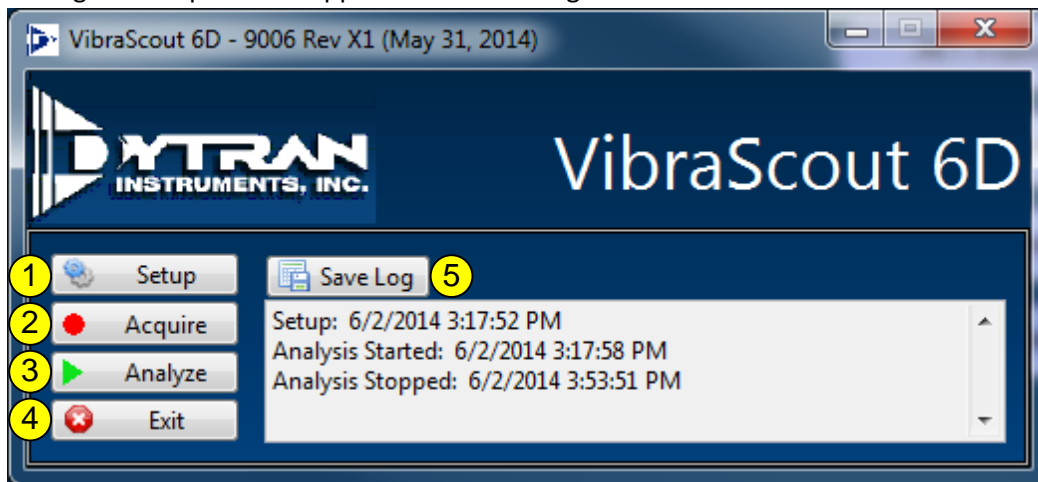

Figure 6:9006 Software Control Panel
3. The following Control panel will appear as shown in Figure 6.
- Once completed with Setup, from Figure 6, click on the Acquire button to start real time acquisition.